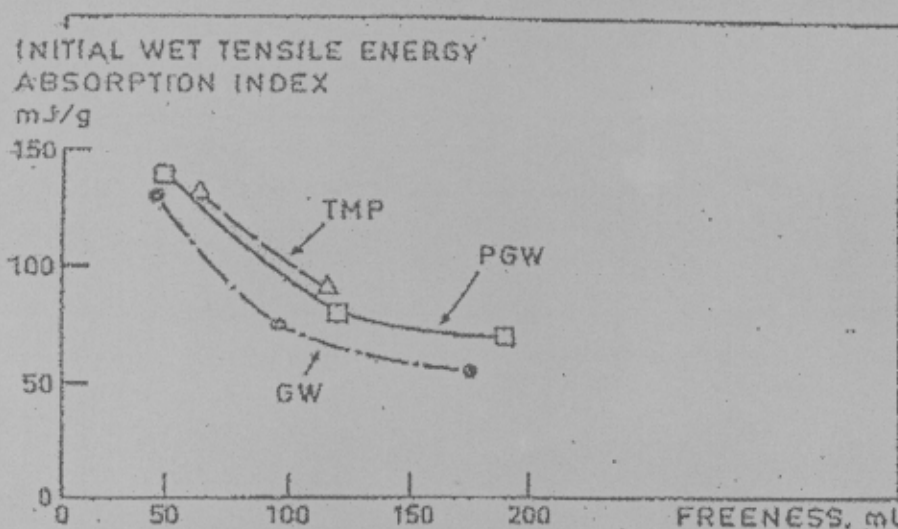

Fig. 1 The initial wet web tensile energy absorption index of various mechanical pulps as a function of freeness at the sheet solids content level of 40 %.
- c) In the figure 1 below there are initial wet web tensile energy absorption index of various mechanical pulps as a function of freeness at the sheet